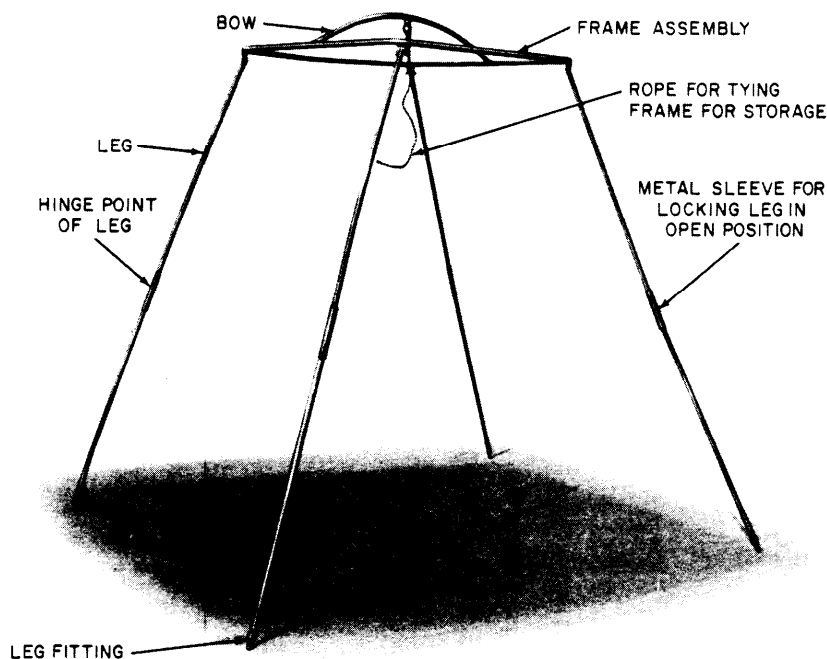

Fig. 2 — Ground Tent Frame
**2.04** The tent frame (Fig. 2) is constructed of 1/2-inch galvanized iron pipe. Four legs, hinged at about the midpoint to permit folding for storage, are attached to the corners of a square frame assembly that supports the top of the tent. The square frame assembly has a cen-